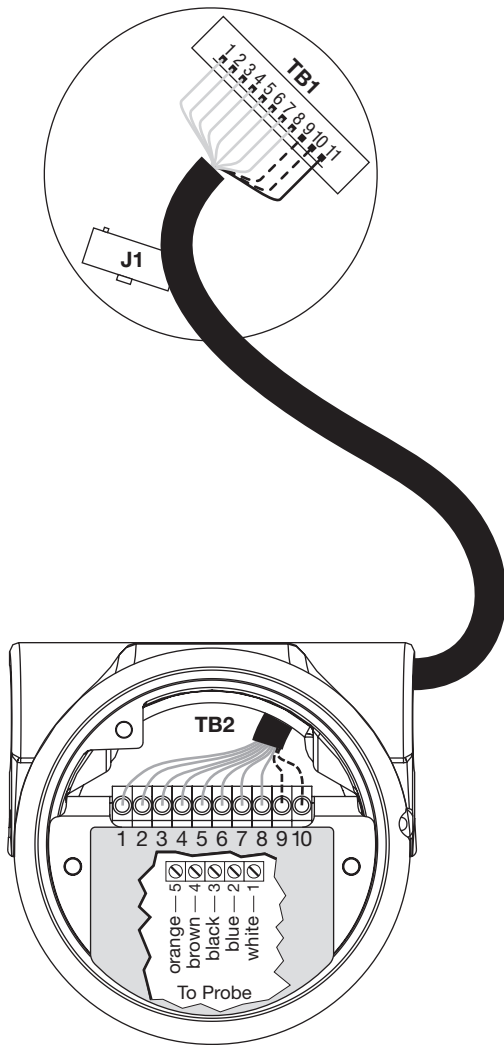

Figure 10
The probe housing contains a remote board with terminal blocks for ease of wiring between the probe and the electronics. An 8-wire (Belden 8104) or 10-wire (Belden 8305) shielded interconnecting cable from the probe housing to the instrument is required. Refer to Figure 10 for wiring connections inside the probe housing and for remote cable wiring from the probe housing to the electronics housing.
5. Probe wiring connections are made to TB1 on the same side of the power loop circuit board. Refer to Figure 10.